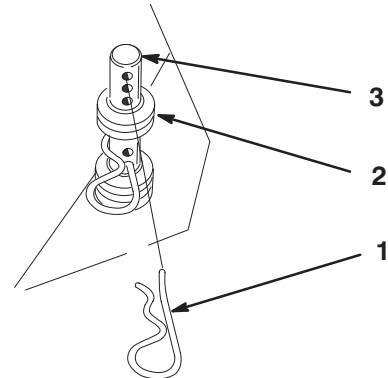

Figure 11
1. On opposite side of muffler, install extra hairpin cotter pins into front and rear height-of-cut pins (Fig. 11).